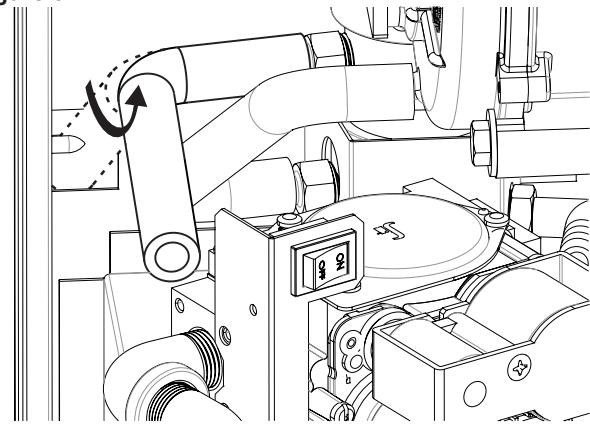

Figure 3
5. Remove and discard the hose clamp and barb from the black condensate drain line from the bottom left of the condensate trap. Rotate the hose toward the front of the furnace. **See Figure 3.**